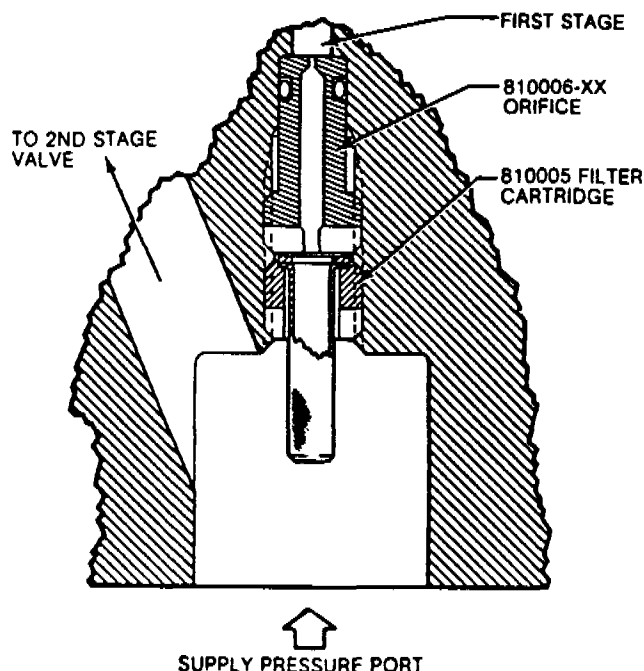

FIGURE 3 FILTER CARTRIDGE REMOVAL
4. Using the special wrench 820000TF3-1 remove filter cartridge. See Figure 3.
The pilot supply pressure should be approximately 450 psi. This pressure is established by placing an orifice between the servovalve supply pressure and the pilot valve. The orifice, part number 8100006, is located under the filter shown in Figure 3. Table 2 shows the color coding, the dash number and the servovalve supply pressure range recommended for each particular orifice. It is important that the proper orifice be selected for the system pressure being applied to the servo. Improper orifice selection may over pressurize the pilot or result in very sluggish performance. To check or change the orifice, remove the filter as described in maintenance section. The top of the orifice should be visible when the filter is removed. It can be removed with a small blade screwdriver.